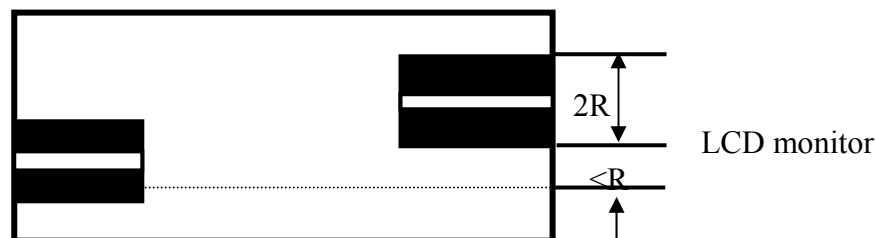

Figure 6
- 2> Load cleaved fiber into V-groove, and the end-surface couldn't touch the bottom of V-groove, consult figure 6(a)、(b).